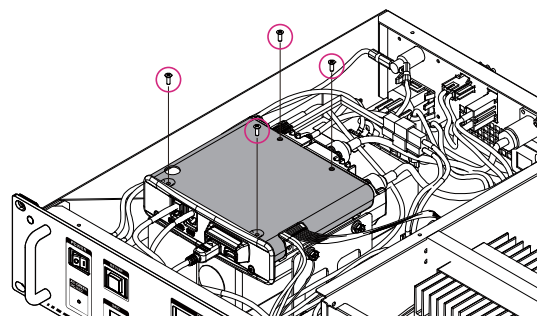

Figure 1
- 4 Referring to Figure 1, remove the 4 screws from the top cover of the RX-UNIT, then remove the top cover.